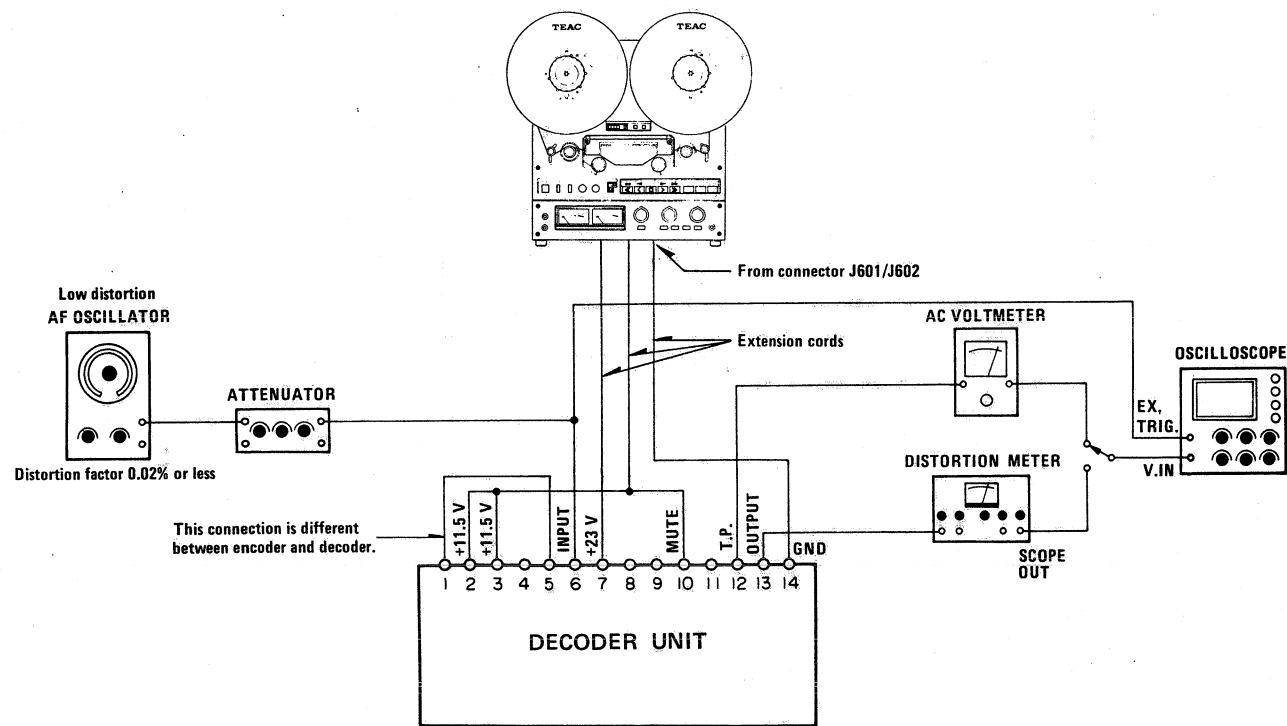

Fig. 3-7 Connection for decoder unit adjustment
1. Make connection as shown in Fig. 3-7.
8. After whole procedure in this paragraph is completed, adjustment by VR624 may be done for the decoder level (item 26 in 3-4).